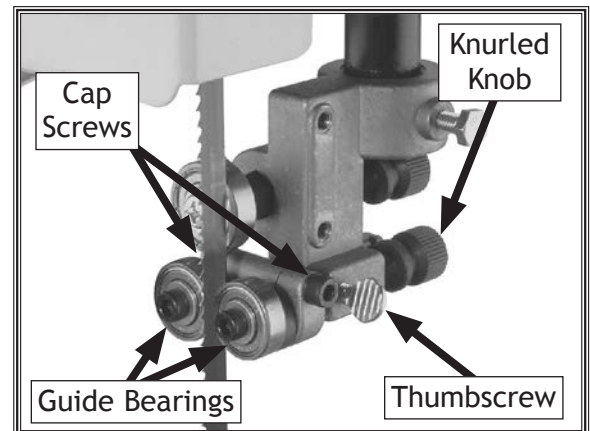

Figure 31. Blade guide bearing controls.
3. Familiarize yourself with the blade guide bearing controls shown in **Figure 31**.
7. Loosen the cap screws behind the guide bearings (see **Figure 31**), then open the upper wheel cover.